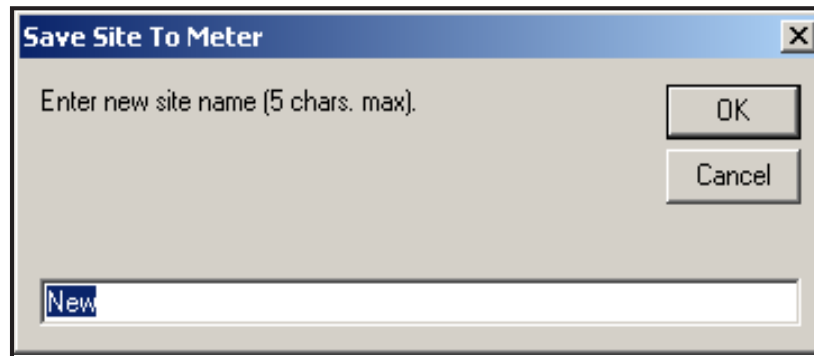

Figure 53: Site Name Entry Window
2. A window opens similar to Figure 53. Enter the desired name, and click [OK].